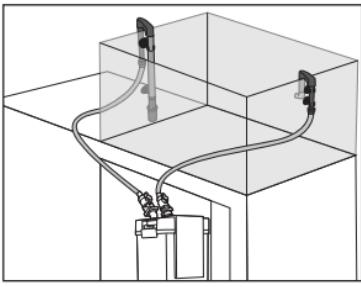

fig 7
- Cut the flexible tubes to the length required to ensure the water runs through as straight as possible, so as to prevent possible (fig.7) obstruction of the flexible tubes (fig. 20).